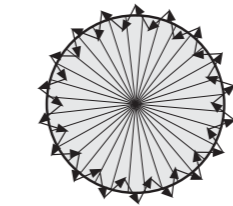

FIG.20
- Walk from outside across to the detection pattern until LED turns on for approx. 2sec then off, the next trigger should be 2sec interval (See FIG.20).